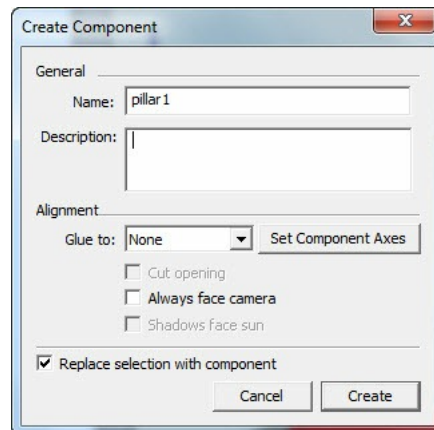

Figure 34. Create Component dialogue box.
- The **Create Component** dialogue box will appear as shown in Figure 34.